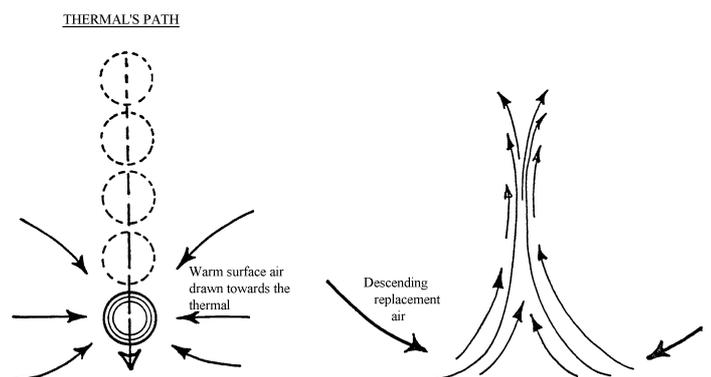

FIGURE 5
20. As seen in Fig 5, thermals will tend to follow the line set up by a previous thermal. If it were not for the suppression of thermals in these areas we would not get the large well formed thermals we experience on the good days. The suppressed areas allow the few good thermals to draw in most of the warm air available without having to compete with many smaller thermals, the best days being when the system works perfectly with well formed thermals and reasonable steering. The factors that may disrupt this well-ordered situation are discussed later. It is essential to any aspiring cross-country pilot to recognise the situation changing as early as possible.